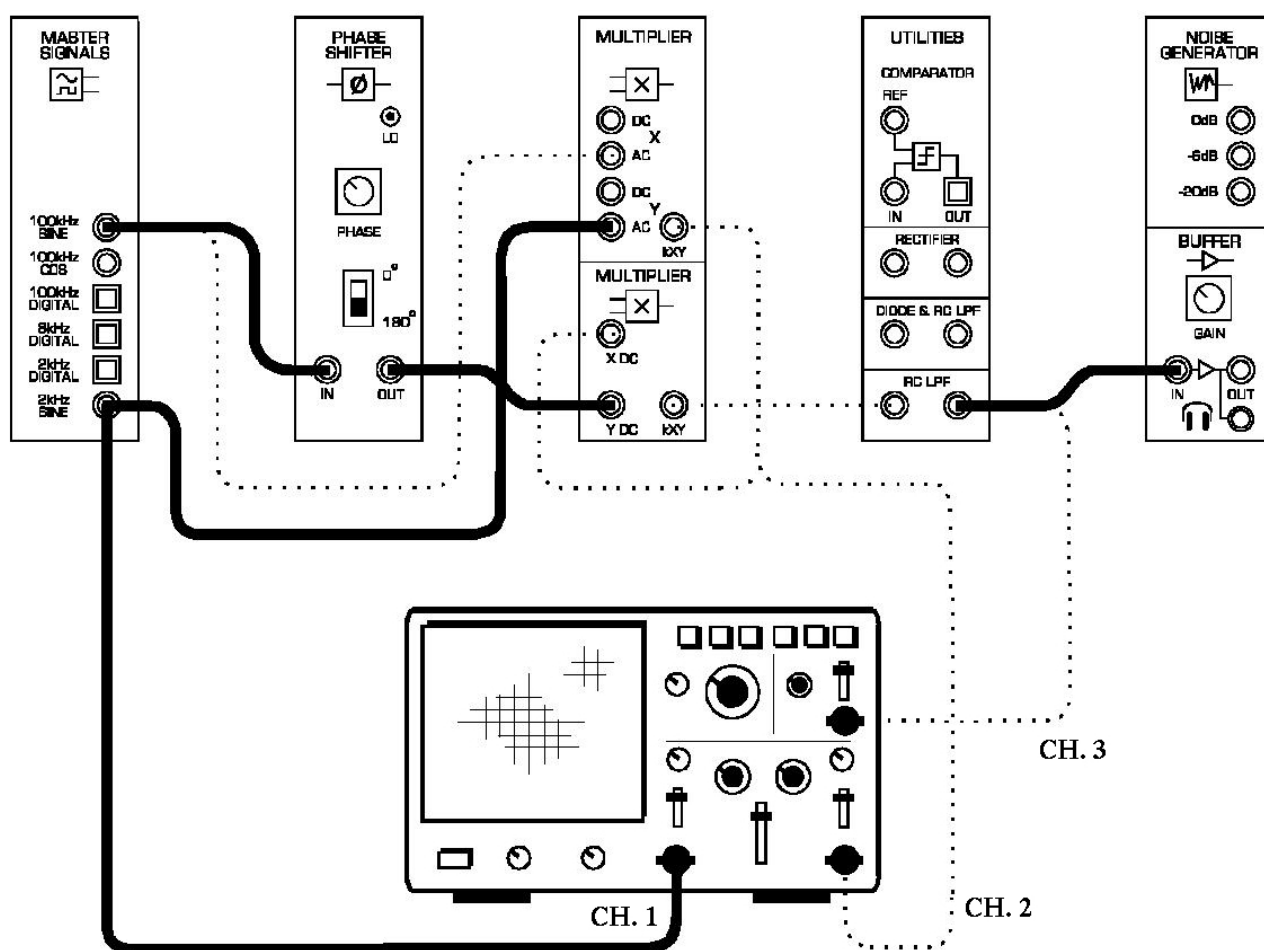

Figure 11:
5. Modify the setup as shown in Figure 11.